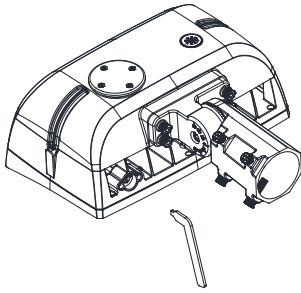

figure 6.4
Step 1: Take the lamp out of the packing box, take out the handle configured in the packing box, and insert it into the slot of the knob. (figure 6.4)